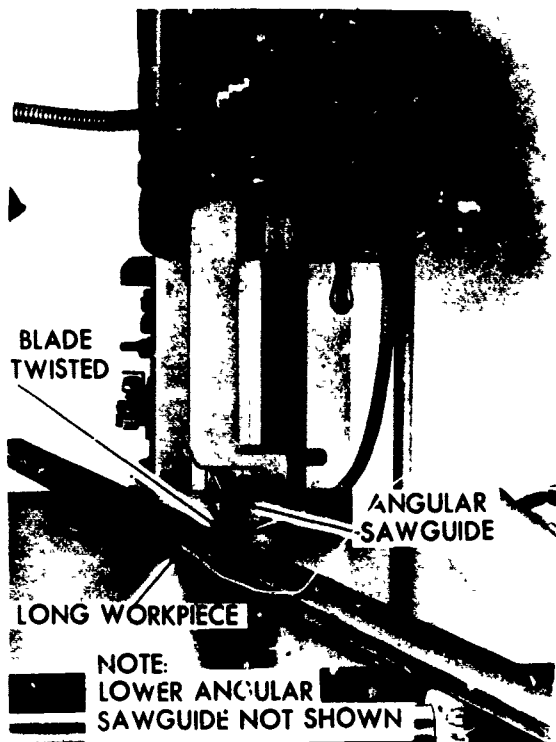

Figure 3-21. Angular saw guides.
**Angular Saw Guides** Angular saw guides twist the saw band to a 30° angle and allow work that would normally be too long to saw to be machined; for example, the bar shown in figure 3-21. The tension must be less than normal to permit the saw band to